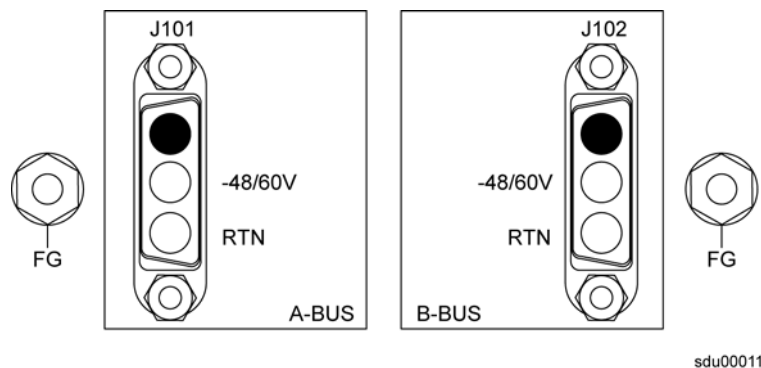

Figure 2-2. SSU-2000e Power Input Connector
Refer to Figure 2-2 for power connections. Pin 1 of each connector is not used. Pin 2 of each connector is $-48/60$ vDC and pin 3 is the Return. The $-48/60$ vDC power inputs have feed-through Pi-filters on each line through the front panel and DC Isolated from Frame and Logic ground. The power return connections are connected to Frame and Logic ground. Both the A-BUS and B-BUS power are fed to the individual module slots through the backplane.
1. Attach 1.29 mm^2 (minimum) stranded wire to two DA3W3P connectors (supplied) as shown in Figure 2-2.